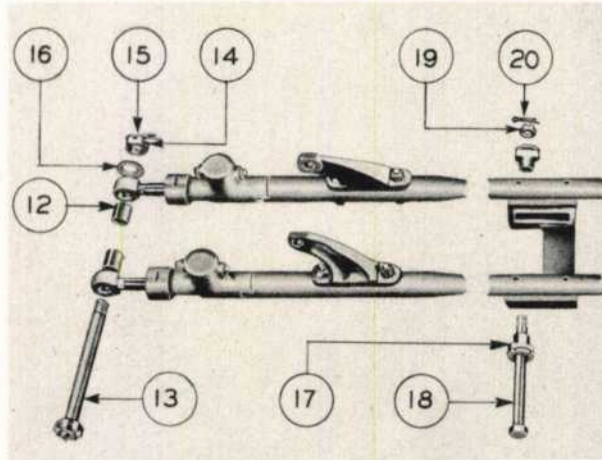

Figure 13—Disassembling Front and Rear Trunnion Bolts
b. Remove cotter pin (15, figure 13), nut (14), front trunnion bolt (13), front trunnion spacers (12), and washer (16); also cotter (20), nut (19), rear trunnion bolt (18), and rear trunnion slides (17).
b. Replace rear trunnion slides (17, figure 13), rear trunnion bolt (18), nut (19) and cotter (20).